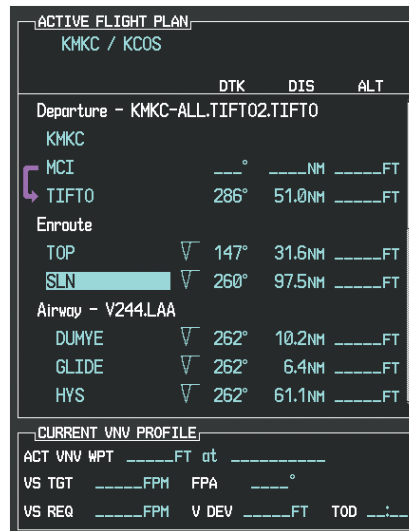

Figure 5-116 TOP Inserted into the Flight Plan
d) Press the **ENT** Key. TOP is inserted into the flight plan as in Figure 5-116.
e) With SLN still highlighted as in Figure 5-116, turn the small **FMS** Knob clockwise. The Waypoint Information Page is displayed and the **LD AIRWY** Softkey is now available.